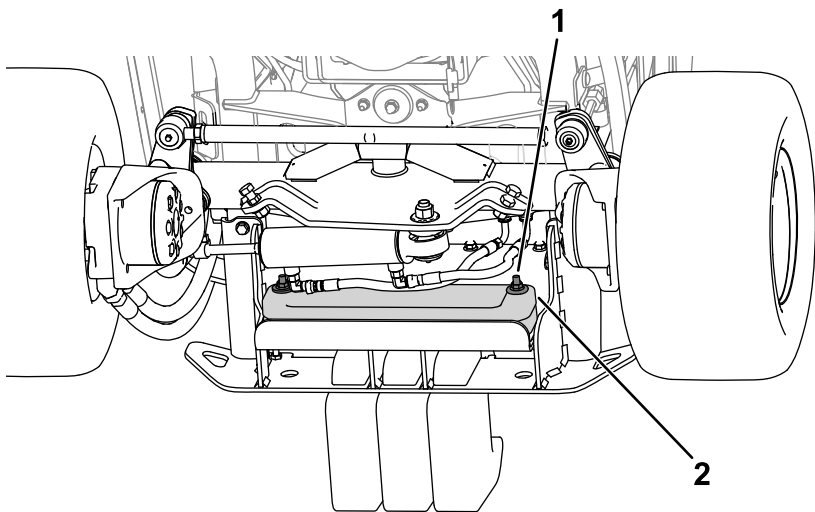

Figure 19
- 2. Use the hardware to secure the weights to the bumper (Figure 19).